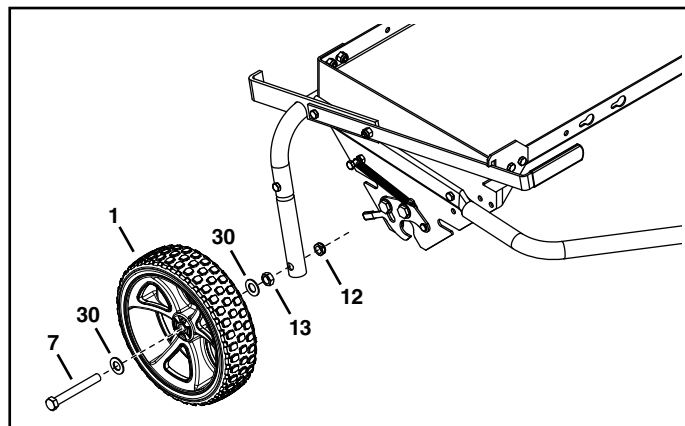

FIGURE 7
- Attach the wheels (1) to the lift tube assembly using a 1/2 x 4-1/8" hex bolt (7), two 1/2" washers (30), a 1/2" jam nut (13) placed between the wheel and the lift tube assembly and 1/2" a nylock jam nut (12) for each wheel. See figure 7.